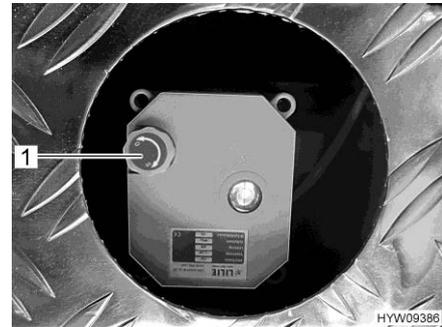

Fig. 197 Handwheel (waste water tap)
- To open the waste water tap, pull handwheel (Fig. 197,1) upwards and turn in an anticlockwise direction as far as it will go. The direction of rotation (O for opening, S for closing) is marked on the handwheel.
- To close the waste water tap, pull handwheel (Fig. 197,1) upwards and turn in a clockwise direction as far as it will go.